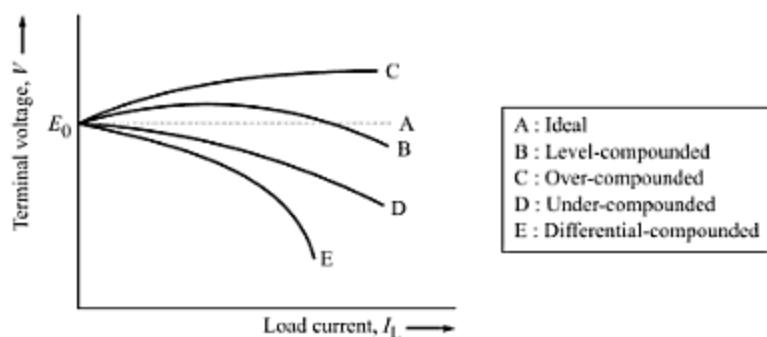

Fig. 16.16 Load characteristics of compound dc generators.
(4) Compound-Wound Generators Ideally, we would like to have load characteristic of a generator as shown by the horizontal straight line A, in Fig. 16.16. This is possible neither from a shunt generator (Fig. 16.14b) nor from a series generator (Fig. 16.15b). However, a compound generator, either short-shunt or long-shunt as shown in Figs. 16.9c and d, respectively, can be designed to achieve a characteristic very near to ideal. It utilises opposing effects of both (i) the falling characteristic of a shunt generator, and (ii) the rising characteristic of a series generator.
Case I We can have a combination of shunt and series excitations in such a way that the resultant terminal voltage varies very little over a range of load current (curve B in Fig. 16.16). The generator is then said to be **flat** or **level-compounded**. The terminal voltage V remains almost constant between the no-load and full-load.
Case II In case the series field supports the shunt field (i.e., if the generator is *cumulative compounded*), and the series ampere turns are more than the shunt ampere turns, the terminal voltage V can be made to rise with load current (curve C in Fig. 16.16). Such a generator, known as **over-compounded**, can be used for supplying power over long distances. Whenever the load increases, the terminal voltage falls due to large voltage drops in transmission lines. The terminal voltage at load end can easily be re-adjusted by the over compounded generator.
Case III In case the series ampere turns are less than the shunt ampere turns, the terminal voltage V falls as the load increases (curve D in Fig. 16.16). Such generators are said to be **under-compounded**. Under-compounding is useful where a short might occur, e.g., in an arc welding machine.
Case IV If the series ampere turns oppose the shunt ampere turns, the generator is said to be **reverse** or **differential-compounded**. For such generators, the terminal voltage V falls very rapidly as the load current increases (curve E in Fig. 16.16).